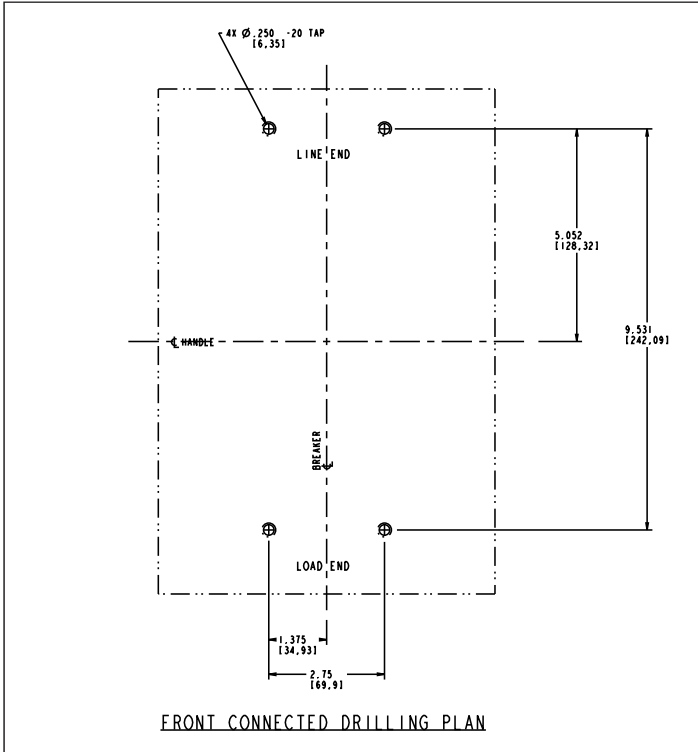
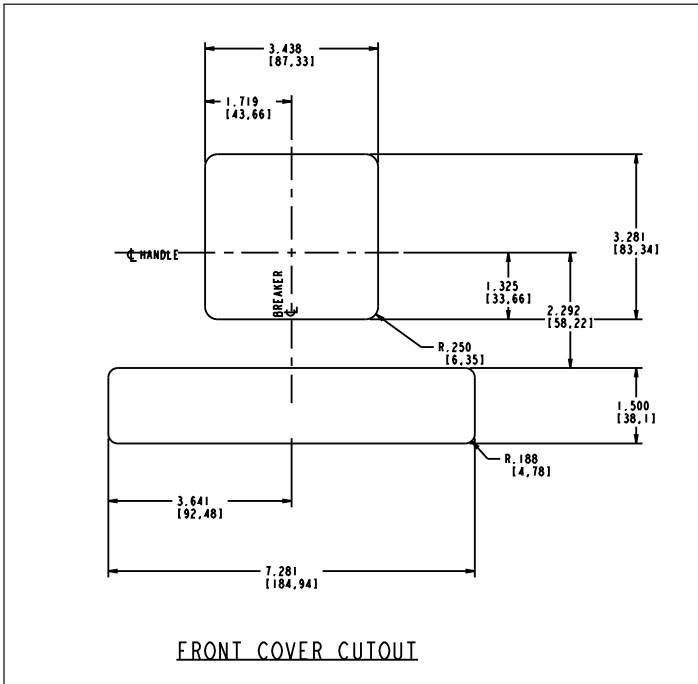

Figure 3. Circuit Breaker Mounting Bolt Drilling Plans.
Figure 4. Circuit Breaker Escutcheon Cutout Dimensions.
- a. For individual surface mounting, drill mounting panel using the drilling plan shown in Figure 3. For panel board mounting, only load end support mounting holes are required. For dead front cover applications, cut out cover to correct escutcheon dimensions (see Figure 4).